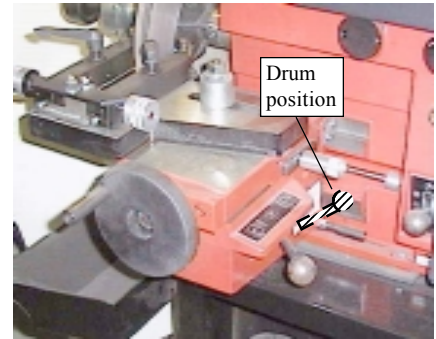

Figure 40
18. An important feature of this lathe is the control lever on the carriage. When in the neutral (N) position, the carriage is automatically locked in that position and conversely, when the control lever is moved out of the neutral position and into drum position, the carriage is unlocked for movement during the drum machining operation. **See Figure 40.**